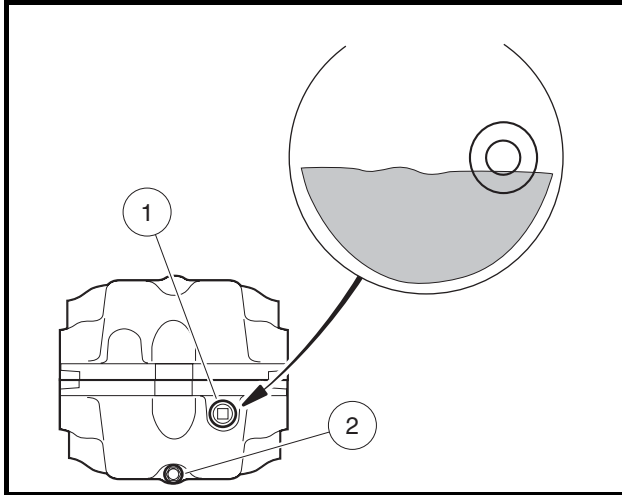

Figure 34 Rear Differential Lubrication Level
Each gearcase component is equipped with two oil port plugs (1 and 2) (**Figure 32**, **Figure 33**, and **Figure 34**). When the vehicle is on a level surface, use the level indicator hole (upper plug) (1) as a lubricant level indicator. Lubricant level should be even with the bottom of level indicator hole (1).
Use the lower plug (2) for drainage (**Figure 32**, **Figure 33**, or **Figure 34**). Remove both plugs to allow the lubricant to drain faster. **See preceding NOTE.** Use the lower plug (2) for drainage (**Figure 32**, **Figure 33**, and **Figure 34**). Remove both plugs to allow the lubricant to drain faster. **See preceding NOTE.**
Clean and install the drain plug (2) and washer before filling the rear differential with new lubricant (**Figure 34**). Tighten the drain plug to 8 ft-lb (10.8 N-m). Use a funnel to fill the differential through the lubricant level indicator hole (1). **See Periodic Lubrication Schedule on page 32.** Apply Loctite 567 to the threads of the level indicator plug and tighten to 21 ft-lb (28 N-m).